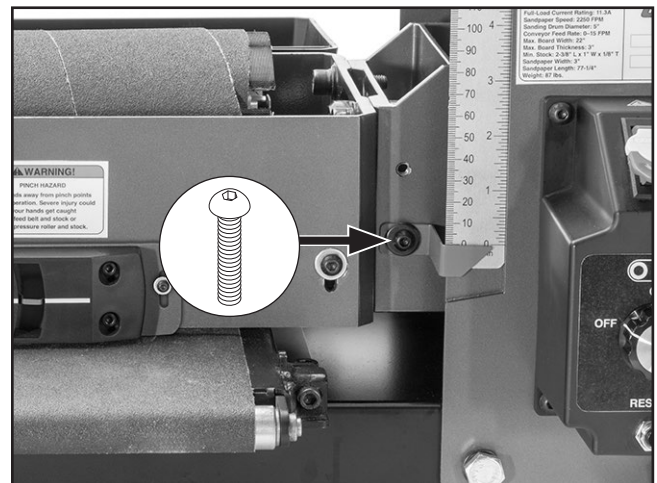

Figure 32. Location of workpiece thickness scale pointer screw.
3. Loosen button head cap screw shown in **Figure 32**, adjust pointer to 0", then tighten screw.